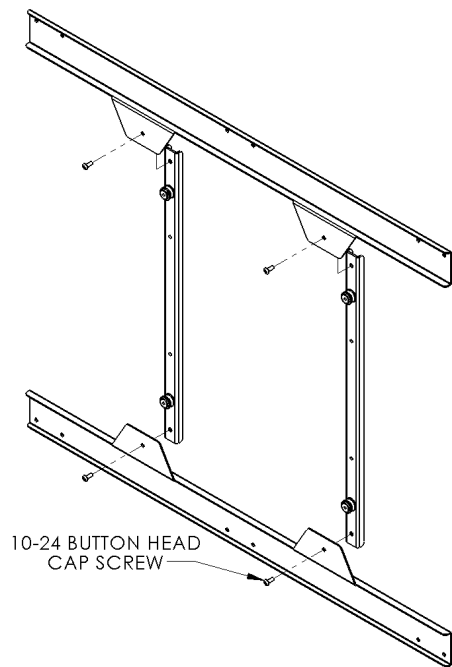

Figure 3
2. Attach cross brackets to horizontal attachment brackets using the 10-24 button head screws. (see Figure 3)